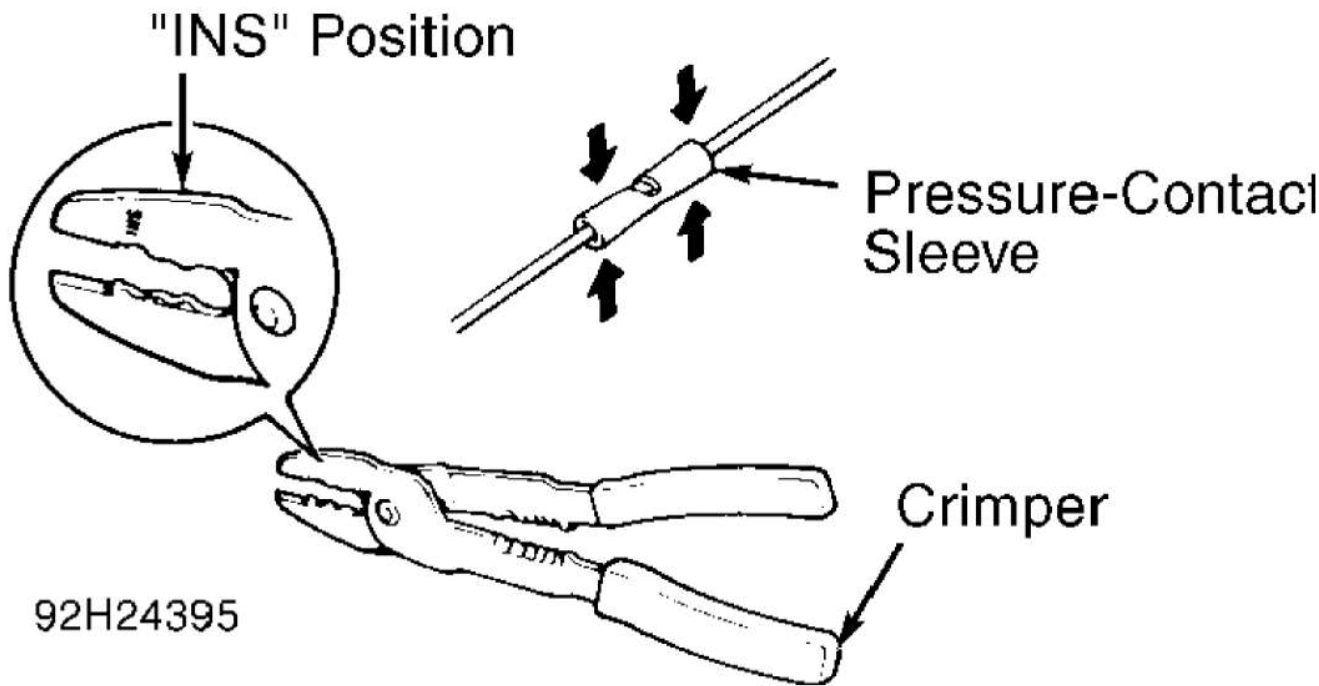

Fig. 8: Crimping Pressure-Contact Sleeve
- 3) Pull joined wires on both ends to ensure a secure crimp. Crimp both ends of sleeve using crimper at INS position. See Fig. 8. Thoroughly wrap silicon tape around joint for protection.